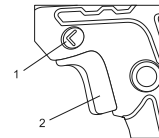

Fig. 1
The forward/reverse switch (1) is conveniently mounted above the trigger switch (#2 in Fig. 1). To make the drill rotate clockwise for drilling, push the forward/reverse switch to the right. To make the drill rotate counterclockwise, push the forward/reverse switch to the left.